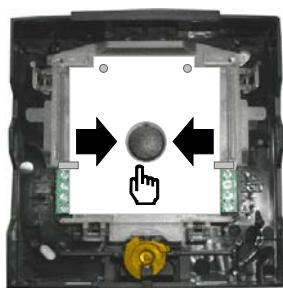

Fig. 4
Identification: In Operation Position the plastic label (Fig. 4) on the retaining pins (F) and push it under the guides (G).
Out of Order The other side of the label can be used for identifying call points that are not in operation (Fig. 4).